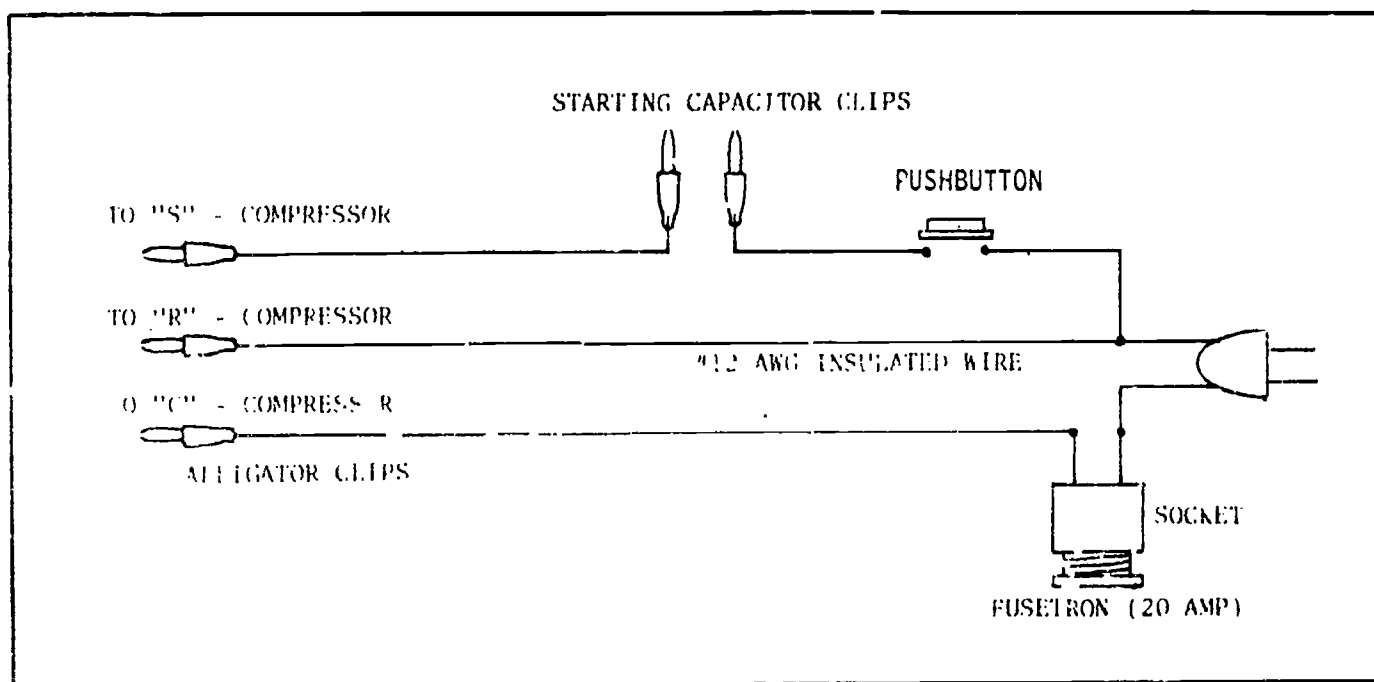

Fig 3-21. Hermetic motor running test.
(1) Compressor-motor test. A rather simple test hookup that can be put together in your shop and used to check a compressor motor (capacitor start/induction run or capacitor start/capacitor run) is shown in figure 3-21. It consists of a starting capacitor, a running capacitor and a simple switch. To use this test hookup, you must first remove all wires from the compressor terminals. (Be sure that you tag each wire to insure that they can be correctly reconnected.) Then connect the hookup to the starting, running, and common terminals as shown in the figure. Now plug the test circuit into the power supply and immediately close the switch for 1 to 2 seconds (holding the switch closed for a long period of time may result in the starting winding being burned out) then open the switch. The compressor motor should continue to run if it is not defective. If the compressor motor does not run then the compressor unit must be replaced.